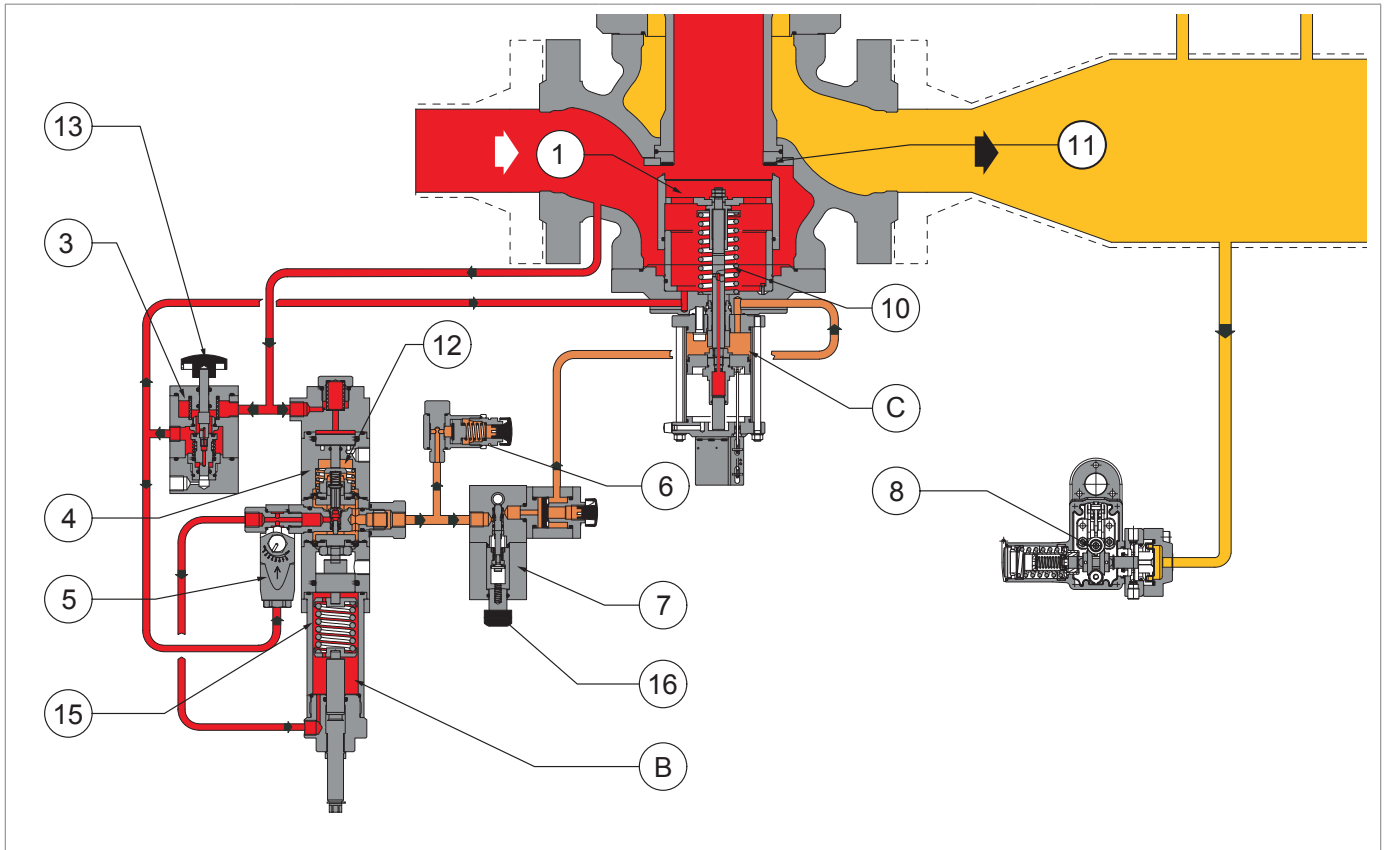

Fig. 4.12. REFLUX 819/FO with HB/97 incorporated slam-shut valve
The HB/97 incorporated slam-shut valve consists of (see Fig. 4.12):
The LINE OFF 2.0 device (3) consists of (see Fig. 4.12):